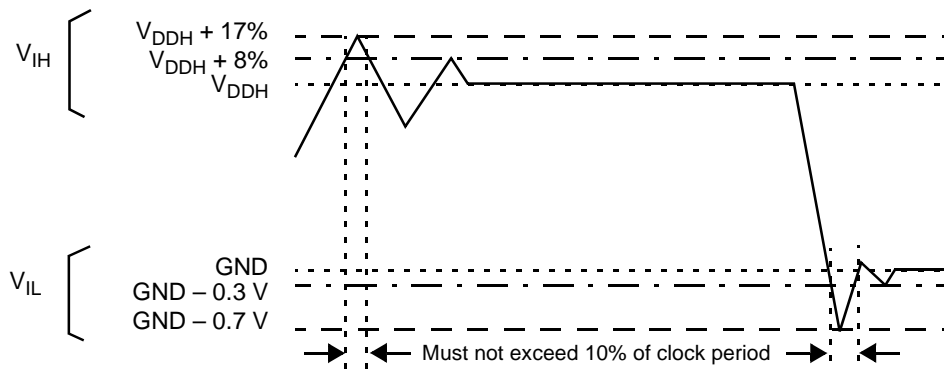

Figure 5. Overshoot/Undershoot Voltage for V_{IH} and V_{IL}
1. See Figure 5 for undershoot and overshoot voltages.